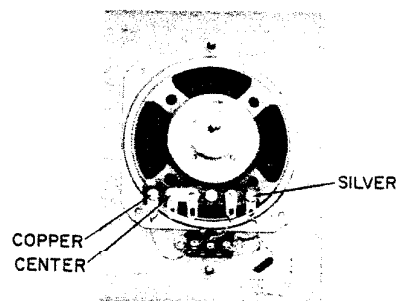

Fig. 8. Speaker connections for Model 2006 remote station.
1. Connect previously installed three-conductor wire to terminal board of speaker (Fig. 8).